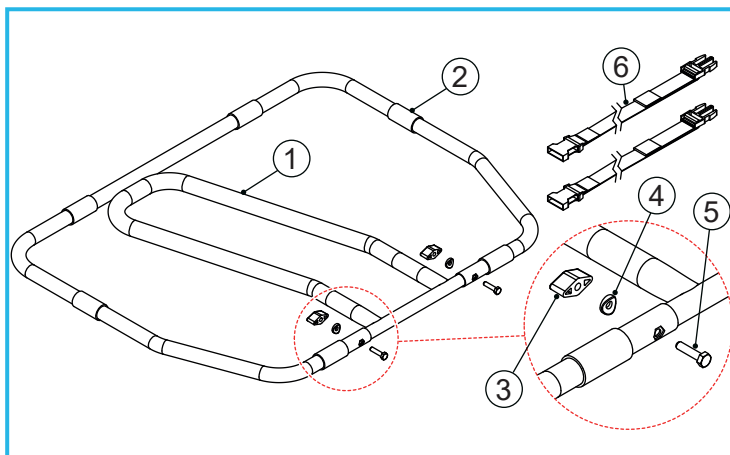

Figure 1: EasyFit Bed Rail Assembly
- Refer to Figure 1. The bed rail handle (1) can be rotated in both directions, please make sure it is in the correct position for your installation.
- Unscrew the two plastic wing-nuts (3), then remove the two plastic saddle-washers (4) and the two bolts (5).